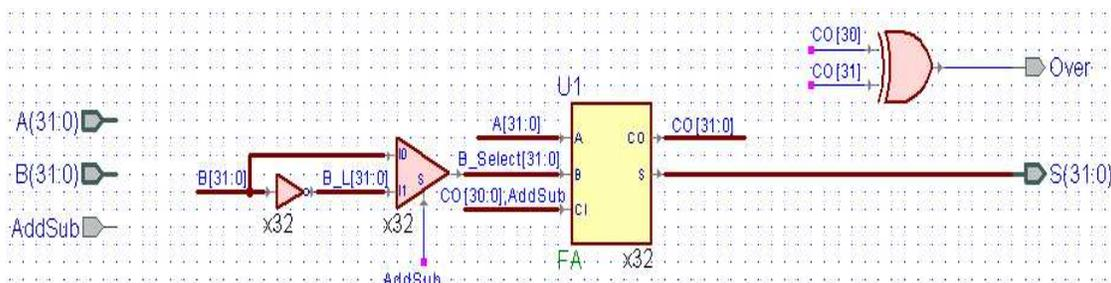

Figure 11
In this portion of the tutorial, you will design a 32-bit adder/subtractor using a full adder. Designing this in the same manner we just designed the 4-bit unit would be tedious, painful and error-prone, even taking advantage of cut-and-paste techniques. Active-HDL, however, provides the ability to create arrays of components, which will help to make easy-to-read designs even when these designs consist of many components. Figure 11 shows the final schematic for the thirty-two-bit adder/subtractor component.
7. Use buses to connect the arrays of components to each other. When connecting the inverter to the multiplexer and the multiplexer to the full adder, you will need to name the buses and set their width to 32. Remember, buses by default are 8-bits and need to be named in order to adjust their width. (Refer back to Figure 11.)